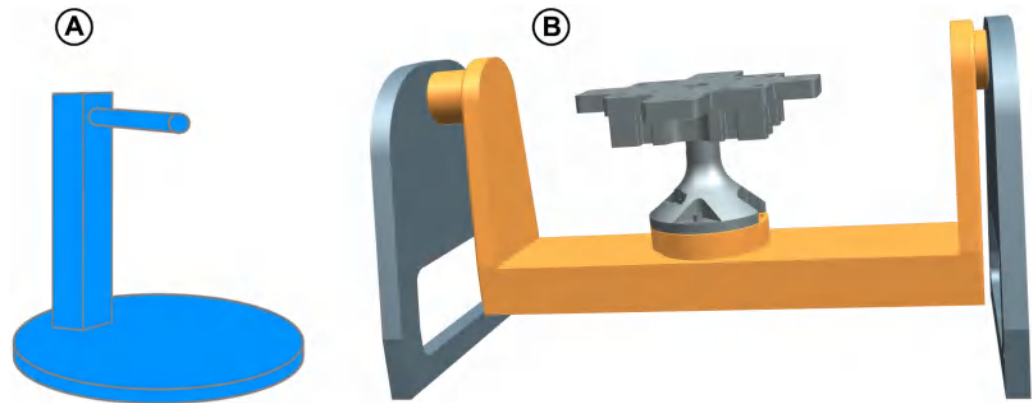

Figure 4-146: OTA positioner types
3. Select one of the types of "Coordinate System" for your positioning system (Figure 4-146):